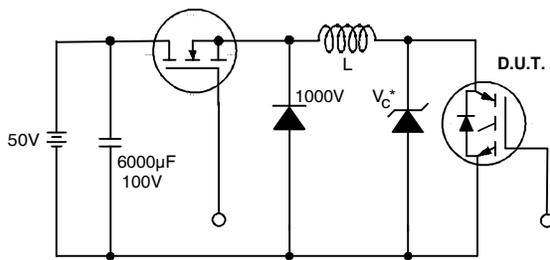

Figure 19. Clamped Inductive Load Test Circuit
- ② $V_{CC}=80\%(V_{CES})$, $V_{GE}=20V$, $L=10\mu H$, $R_G = 50\Omega$ (figure 19)
- ③ Pulse width $\leq 80\mu s$; duty factor $\leq 0.1\%$.
- ④ Pulse width $5.0\mu s$, single shot.
- ⑤ $t = 60s$, $f = 60Hz$